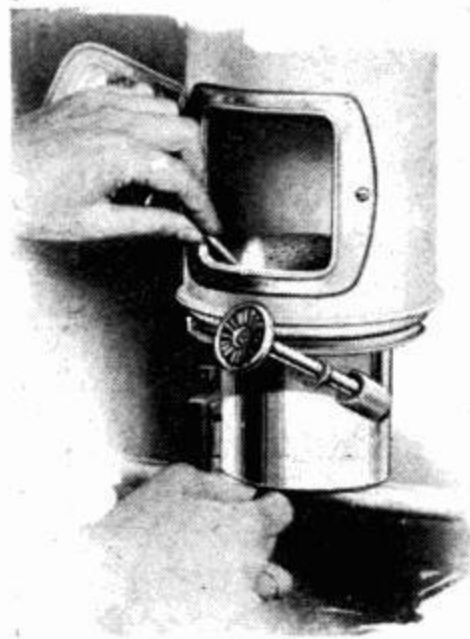

FIG. 14. Lighting oil stove.
26. Lighting the Stove. When lighting a stove, turn the valve which permits the oil to flow (C, Fig. 11) into the cup below the burner, or lower the lighter into the oil. Wait a moment, if need be, for the wick or ring to become saturated with oil. Raise the chimney and touch the lighted match to the ring or wick at several places. (Fig. 14, and Fig. 11, also, show the position of the chimney and wick for lighting.) Lower the chimney, seeing that it fits back into place. Adjust the wick to the proper height to get a blue flame (Fig. 15). Do not turn very high at first, for, while the stove is becoming heated, the